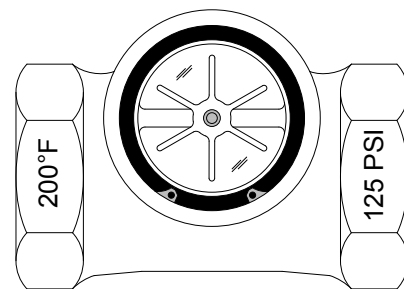

Figure 1
3. The user's purchase order, 'Product Quick Specs' and the technical drawing, all conform to the ratings stamped on the wring fitting surface as shown in Figure 1.